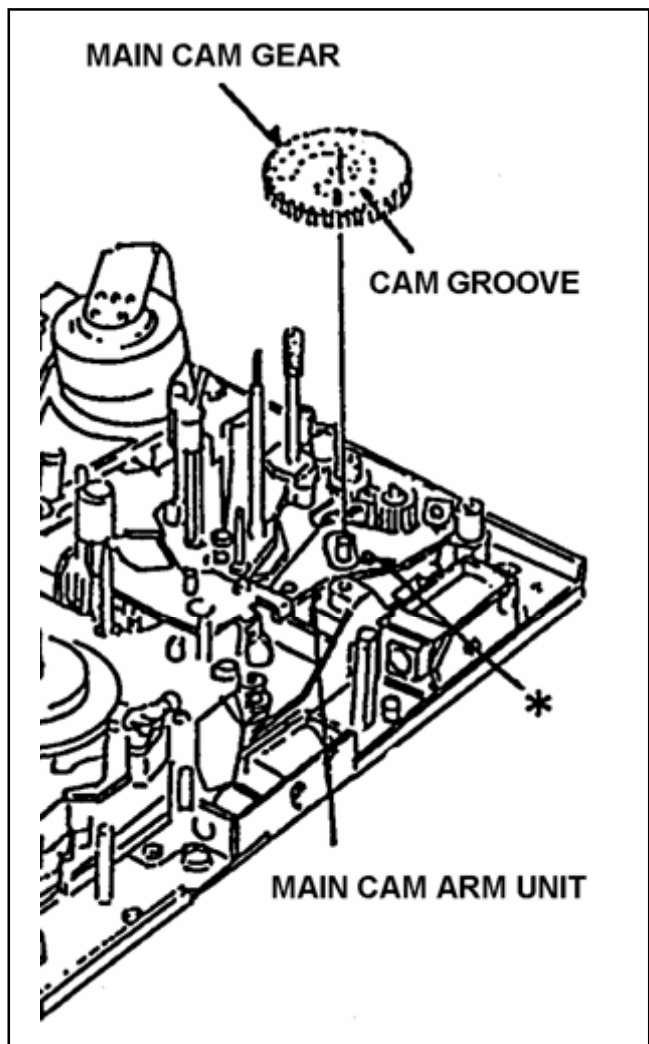

Figure 5-15-1
1. Remove the Pinch Solenoid Unit and Loading Motor Unit. (Refer to item 5-10 and 5-13.)
2. Remove the Main Cam Gear as shown in Figure 5-15-1.
1. Install the Main Cam Gear, then the pin of Main Cam Arm Unit (*) should match with the groove position of Main Cam Gear as shown in Figure 5-15-1.
3. After installation, perform the Pinch Solenoid Position Adjustment. (Refer to item 5-11)